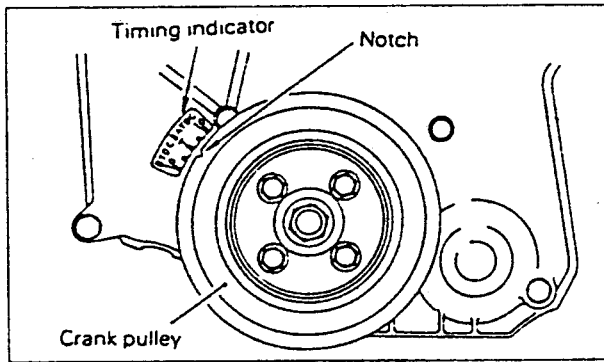

Fig. 15.38. — The top dead centre position of the No. 1 cylinder.
- If the engine has been rotated in the meantime, reset it to the top dead centre position in the No. 1 cylinder, making sure that the compression stroke has been obtained. The notch in the crankshaft pulley must be opposite the "TDC" mark on the timing indicator, as shown in Fig. 15.38. Also check that the timing mark on the camshaft sprocket is opposite the arrow. Unscrew the glow plugs to facilitate the rotation of the crankshaft.